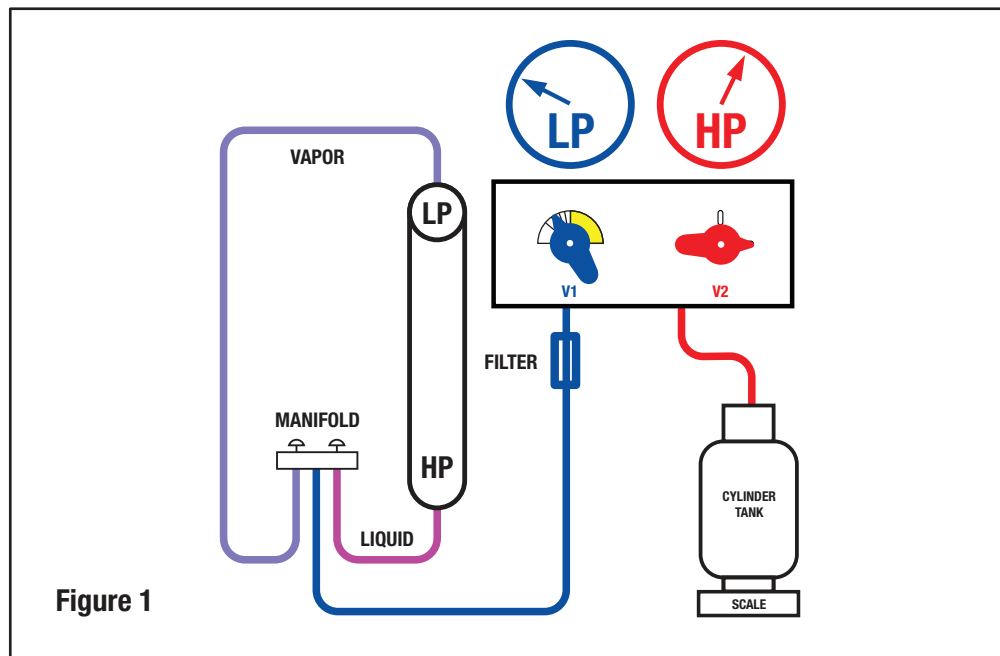

Figure 1
- 1) Connect the hoses and cords according to 3.1 and figure 1. Make sure that they are tight and don't interfere with the normal operation of the machine.
- 7) Monitor the inlet pressure (LP) and slowly open the V1 valve. Throttle the V1 valve or the manifold valves if too much liquid is entering the machine.
- Install an appropriate filter at the intake of the machine and connect the hoses according to the diagram in Figure 1.